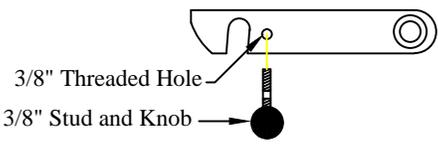

Figure 21: Original Series platform latch knob.
- 1. Install** the two (2) knobs on the platform latches (Original Series only) see (Figure 21).
- 2. Install** the two (2) square plastic insert nuts for the license plate into the square holes on the liftgate.
- 3. Install** the license plate using the two (2) stainless steel screws provided.